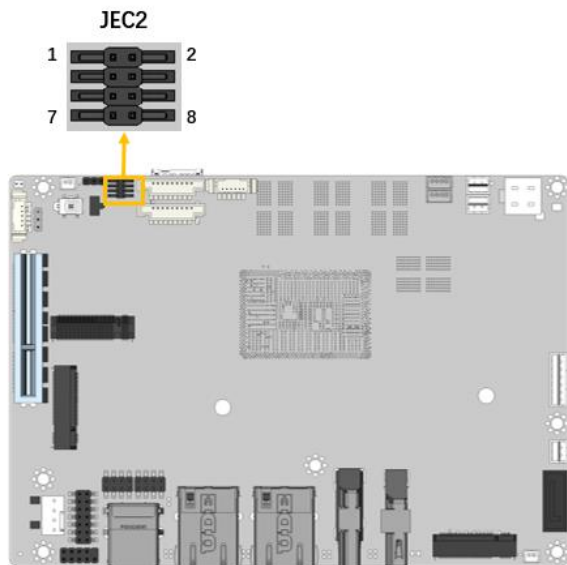

Figure 3-21: Flash EC ROM Connector Location
- CN Location:** See **Figure 3-21**